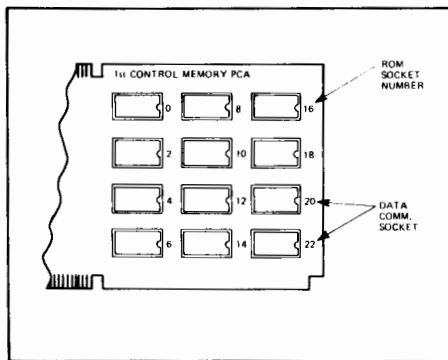

Figure 2-32. Data Communication ROM Locations for 2645A, 2648A, and 13290B Terminals.
6. Observing the caution notes at the start of this procedure, insert the ROM(s) in the Control Memory PCA data communication ROM sockets (see figures 2-32, 2-32A, and 2-33). If only one ROM is supplied, install it in the lowest-numbered socket, leaving the highest-numbered socket empty. If two ROMs are supplied, install the ROM with the lowest part number in the lowest-numbered ROM socket and the ROM with the highest part number in the highest-numbered ROM socket.